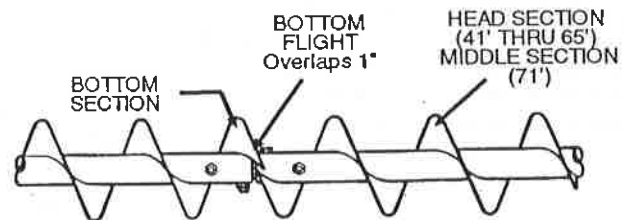

FIG. 3
Step 1. Bolt the auger flighting sections together using two 7/16" x 3" (grade 8) black hex head capscrews and side depress locknuts. The lower flight will lap the upper flight about one inch. See Figure 3. **NOTE:** Flight connection between middle and head section on the 71' model does not lap.